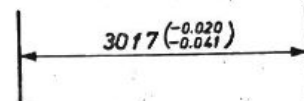

Fig. 2
- (c) if it is necessary to express them, the values of the deviations, in parentheses (Fig. 2).